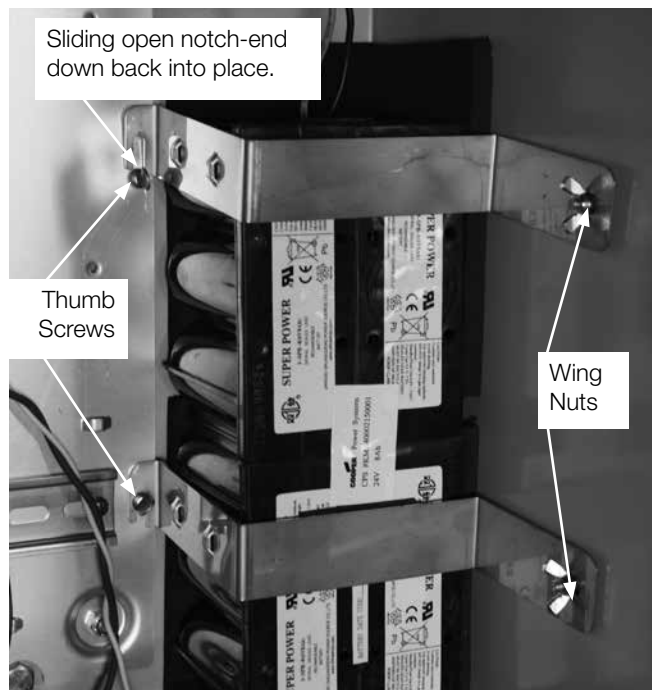

Figure 46. Reinstall battery bracket(s)
- Re-install the battery brackets by sliding the open notch-end back into place (Figure 46).
- Tighten down the two thumb screws (Figure 46).
- Tighten down the two wing nuts for the battery brackets (Figure 46).